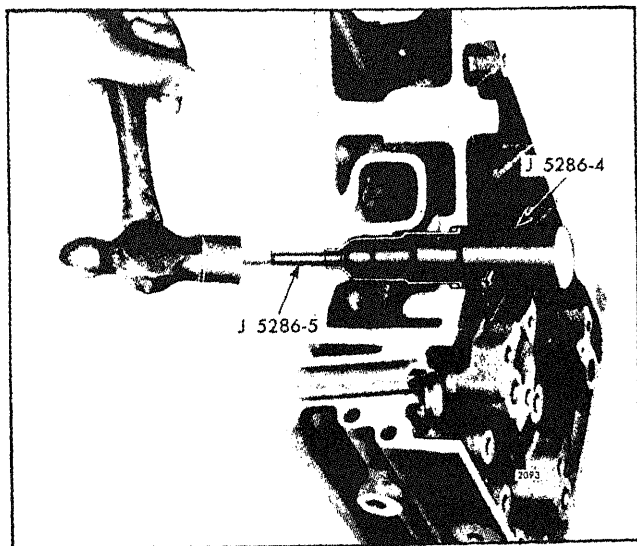

Fig. 1 - Removing Injector Tube
The bore in the cylinder head for the fuel injector is directly through the cylinder head water jacket as shown in Fig. 1. To prevent coolant from contacting the injector and still maintain maximum cooling of the injector, a tube is pressed into the injector bore. This tube is sealed at the top with a neoprene ring and upset into a flare on the lower side of the cylinder head to create water-tight and gas-tight joints at the top and bottom.
2. Place the injector tube installer J 5286-4 in the injector tube. Insert the pilot J 5286-5 through the small opening of the injector tube and thread the pilot into the tapped hole in the end of the installer (Fig. 1).